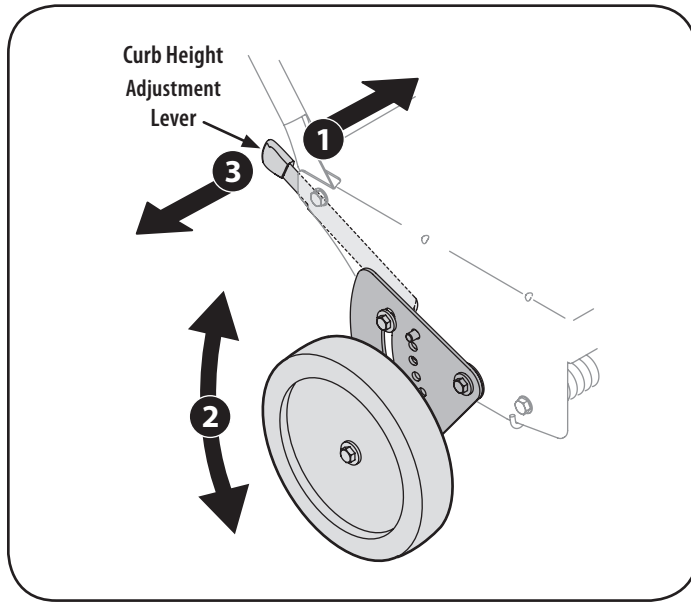

Figure 10
1. Lower the right rear wheel by moving the curb height adjustment lever slightly to the left. See Figure 10.